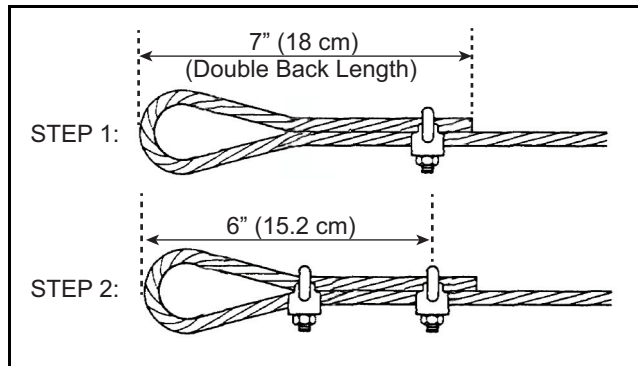

Figure 2 Install the Cable Clamp
4. Secure the cable in place by installing and tightening the two existing 1/4" cable clamps (see Figure 2).